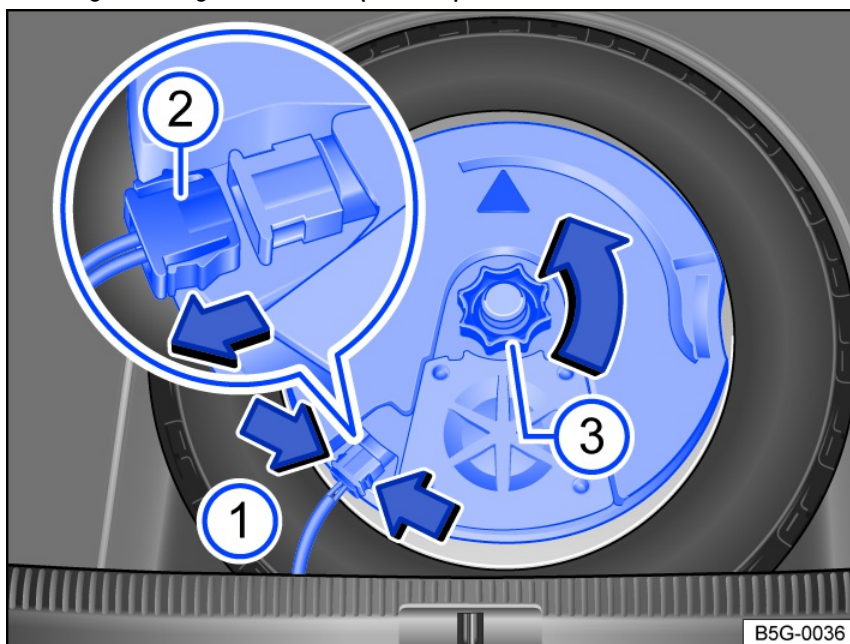

Fig. 212 In the luggage compartment: removing the subwoofer (version 1).
- To release the connector, press the *fig. 212* ② retaining tabs together *fig. 212* (arrows ①).
- Remove the connector *fig. 212* ② in the direction of the arrow and set the removed electrical wire to the side.
- Remove the handwheel *fig. 212* ③ in the direction of the arrow.
- Insert the connector *fig. 212* (2) until it locks into place.
- Turn the handwheel *fig. 212* (3) on the threaded pin in the opposite direction to the arrow until the subwoofer is securely fastened.